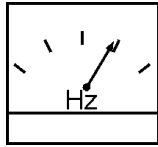

**Figure 40. Engine Running LED (ON)**
4. Verify that the **engine running status LED** on the MPEC unit (Figure 40) is **ON** (lit) after the engine has been started.